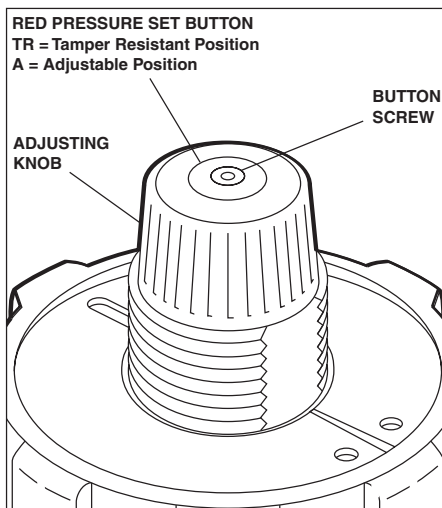

Figure 1. R24 Pressure Set Button
- have the red pressure set button (Figure 1) in the tamper resistant position, preventing the accidental setting of a pressure limit. When the button is in the tamper resistant position, the letters **TR** are visible on the button; when the button is in the adjustable position, the letter **A** is visible.
1-2. Set the R24 for Normal Operation (Fig 1).
1-3. How to Set Outlet Pressure Limit when the Pressure Set Button is in the Tamper Resistant Position (Fig 1).
1-4. How to Set Outlet Pressure Limit when the Pressure Set Button is in the Adjustable Position (Fig 1).
1-5. Tamper Resistant Procedure (Fig 1).